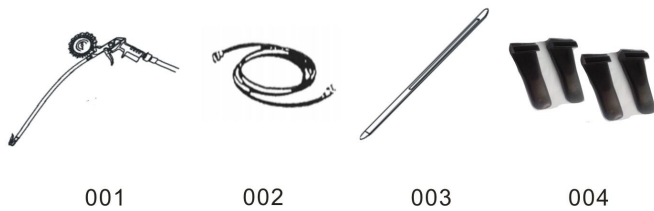

Fig.2
**Accessories provided are shown in Fig.2:**